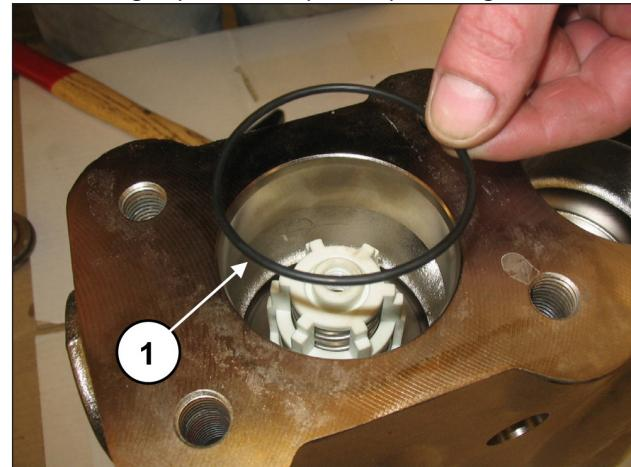

Fig. 123
Fit the O-ring, exploded view pos. 17 (pos. ①, Fig. 123).